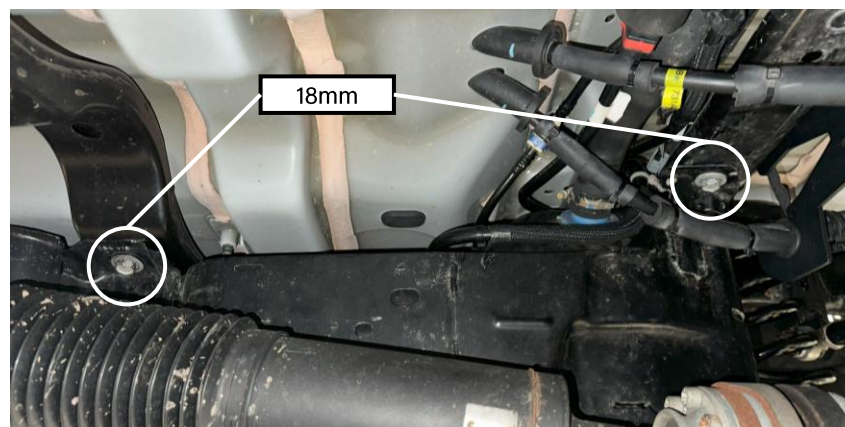

Figure 5: (2 of 6) gas tank bolts
- ❑ Remove the (6) bolts holding the gas tank in place and **slowly lower the tank 3-4 inches using the supporting jack stands**. You'll find 3 bolts on the frame rail, 1 on the front cross member, and 2 on the side closest to the driveshaft (Figure 5)